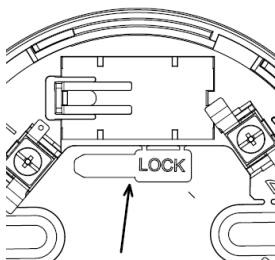

Fig.2
- Remove the key from the base beforehand (fig. 2).